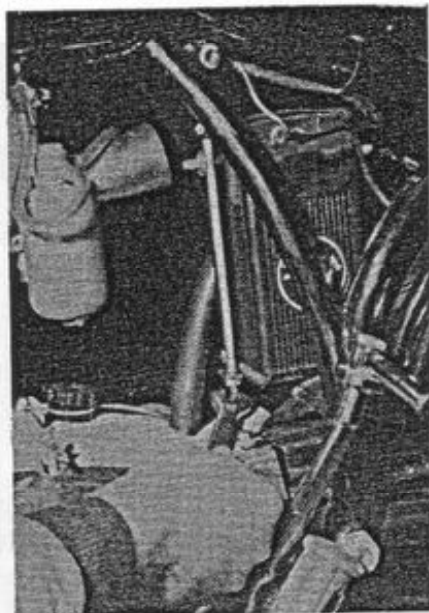
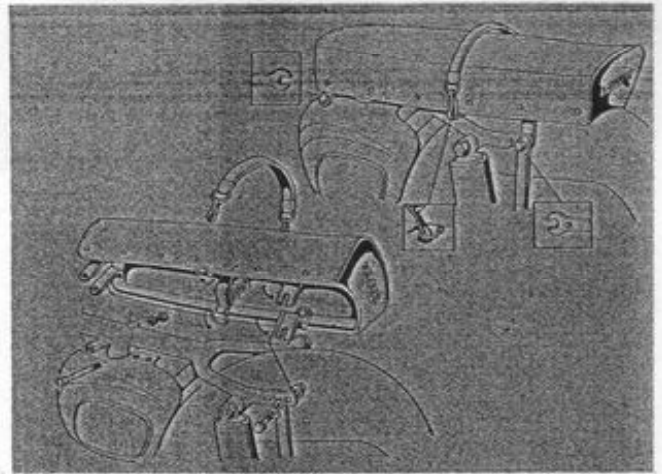

fig. 26
fig. 27
- b. Remove nut from retaining bolt (Fig. 26) and remove battery. (Fig. 27).